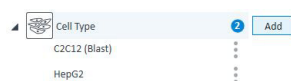

Figure 10 Cell Type
- 1 Click **Add** next to **Cell Type**. (See Figure 10.)